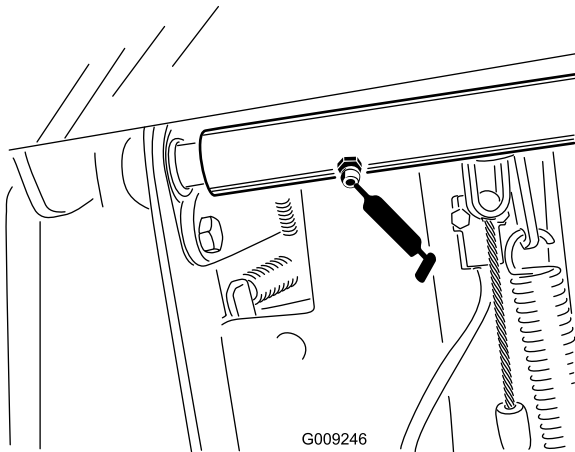

Figure 35
- Brake pedal pivot shaft bearings (2) (Figure 35)